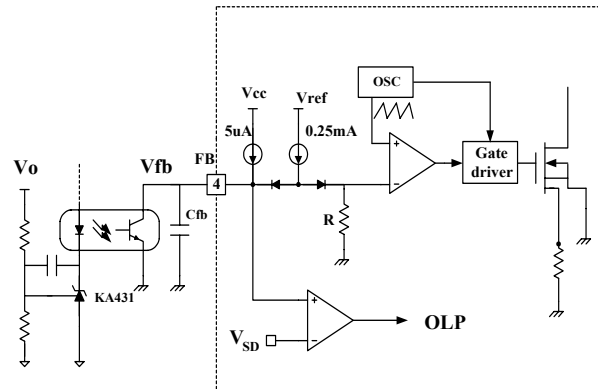

Figure 3. PWM and feedback circuit
**2. Feedback Control :** The FSD200/210 are voltage mode devices as shown in Figure 3. Usually, an optocoupler and KA431 type voltage reference are used to implement the feedback network. The feedback voltage is compared with an internally generated sawtooth waveform. This directly controls the duty cycle. When